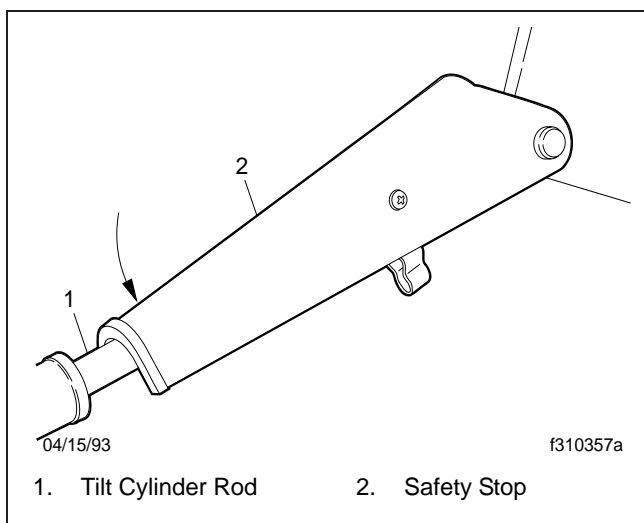

Fig. 2, Safety Stop In Place
8. Put the safety stop on the right tilt cylinder in place. See Fig. 2. The safety stop prevents the cab from dropping below a specific angle.